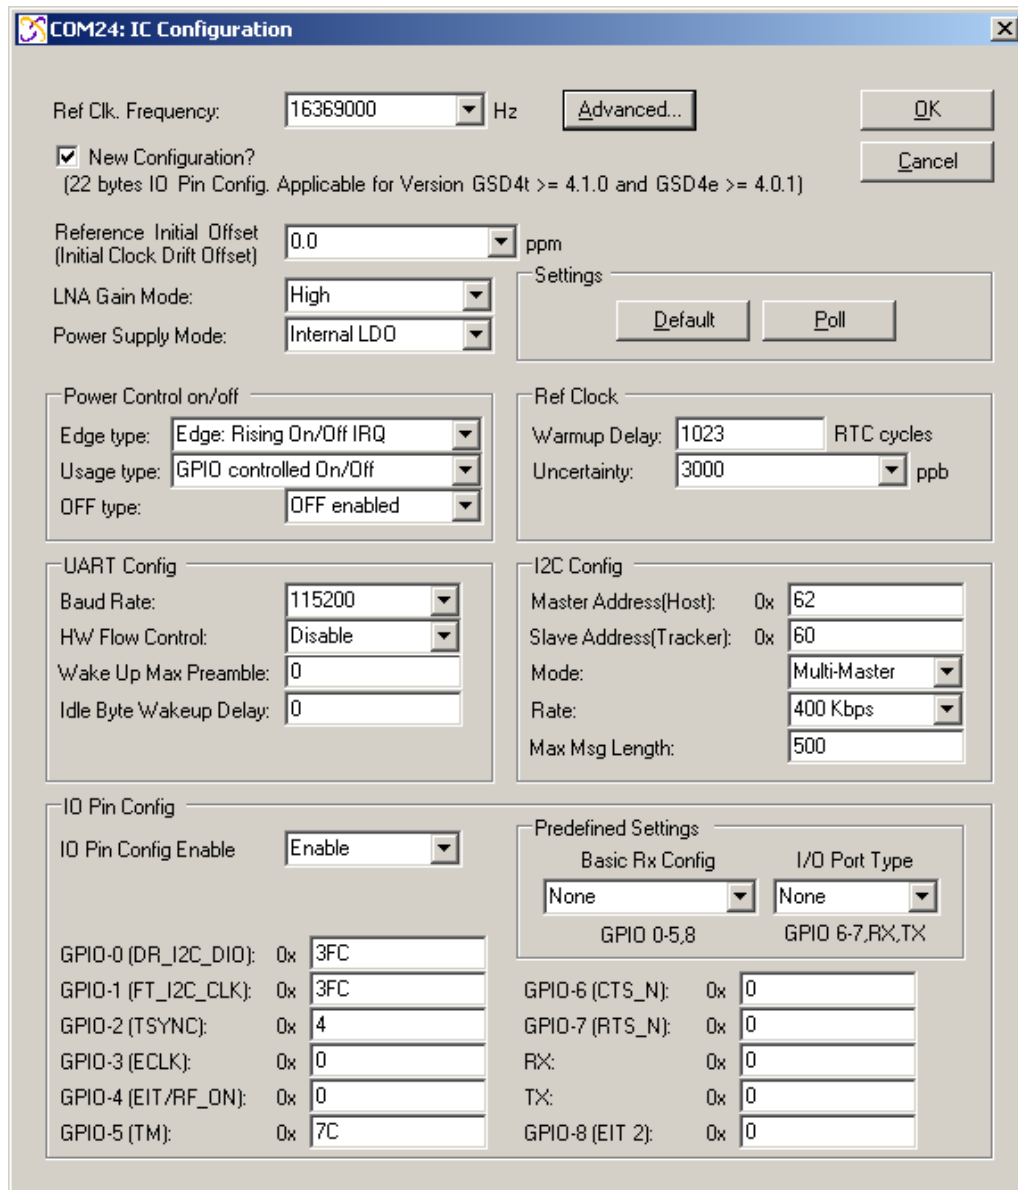

Figure 16: Configuring the IC parameters.
- ii. Under the selection “LNA Gain Mode:” choose “Low” from the drop down menu. Choosing Low will configure the internal LNA to its low gain mode. This will make the Evaluation Kit better fitted to work with an active antenna. *Figure 16* displays the IC Configuration window.